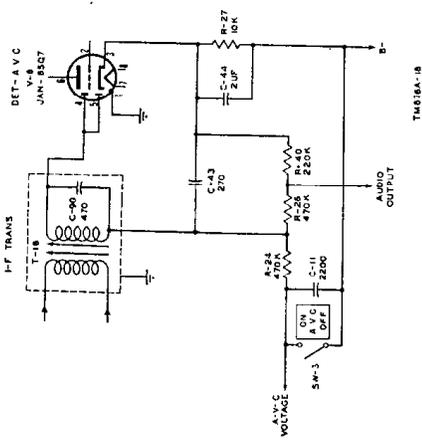

Figure 24. Detector and arc, simplified schematic diagram.
55. Detector and Avc (fig. 24)